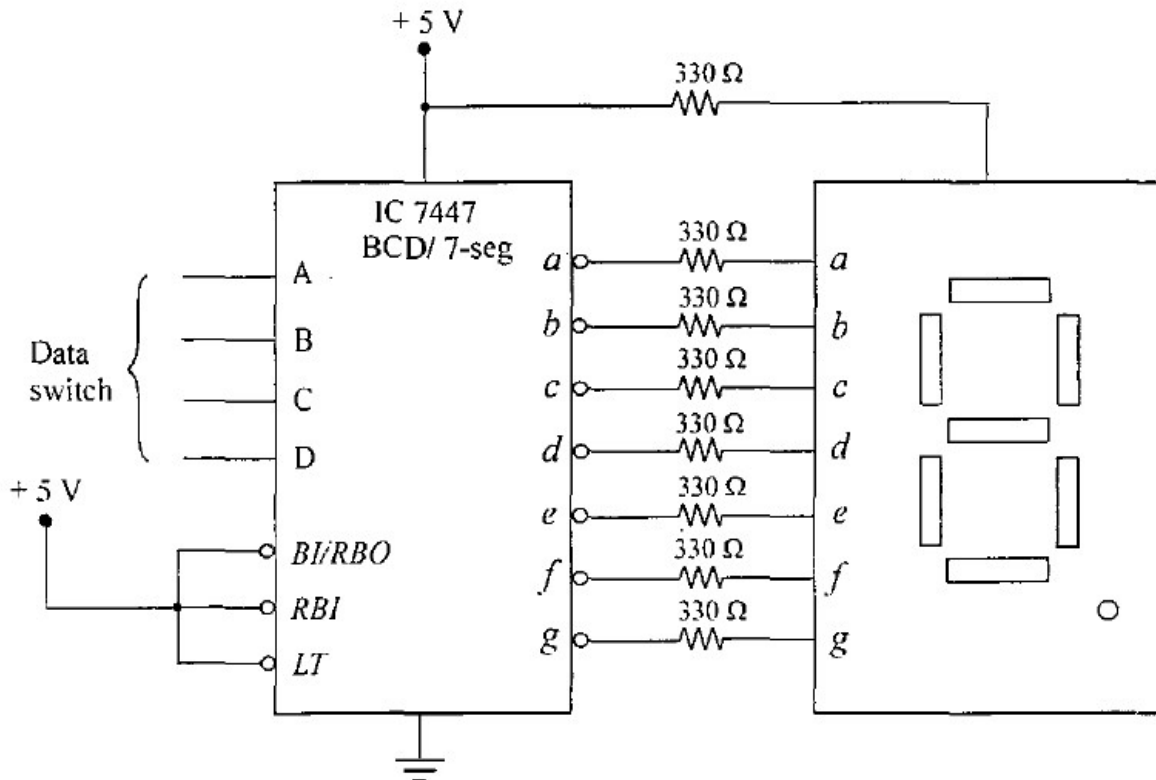

Figure 3.1
1. Refer to Figure 3.1. Complete Table 3.1. Draw the decimal number that's appears on the display corresponding to the sequence inputs. No need to do the experiment.